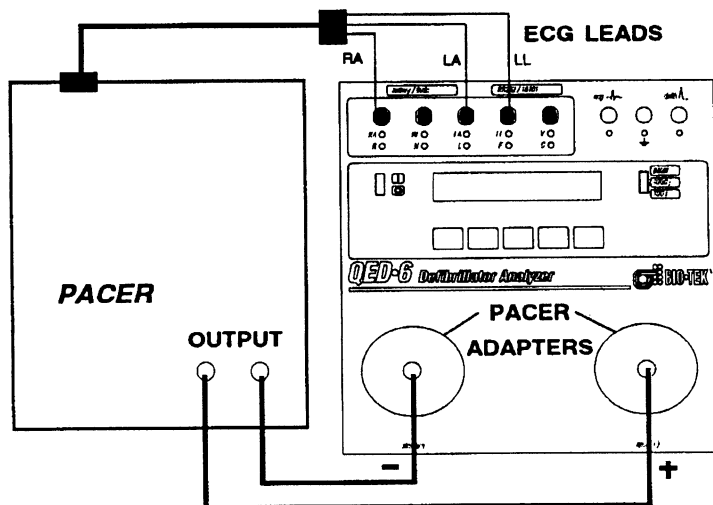

Figure 2.6. Connecting Pacer Output to QED-6
- 4) Connect the output from the pacer to the QED-6 shown in *Figure 2.6*.
- 3) Press **RFP** from the pacer tests menu to select refractory period testing. Refer to *Figure 2.6* for setup. The following menu appears.